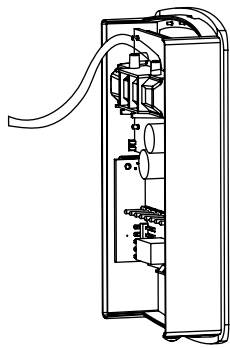

Figure 6: Wall mount calibration
- Step 2: Remove one of the gas nipple covers on the CO₂ sensor and attach tubing from the gas pressure regulator to the nipple (See Figure 6).
- Step 4: Hold housing so that the sensor is in the vertical plane as shown in Figure 6.